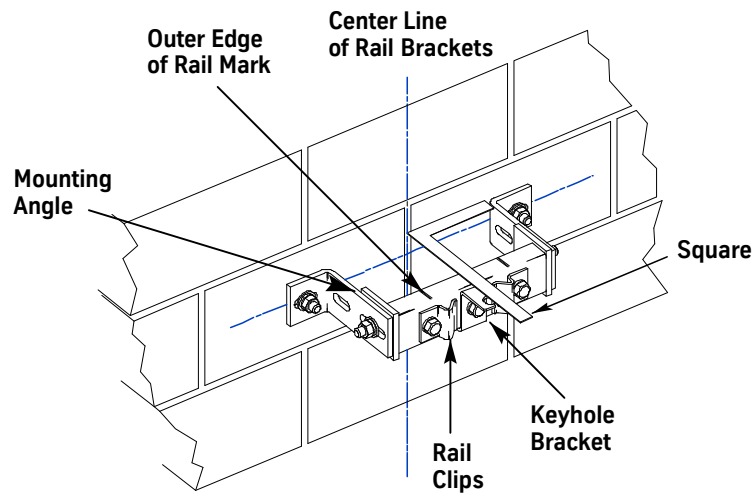

Figure 4 - Rail Bracket Location
- b. Drill the holes for the anchor bolts, or weld the bracket to the beam. See Figure 4.
- e. Align and plumb the bracket to the mounting angles (per alignment marks), and lock the bracket to the mounting angles. See Figure 4.